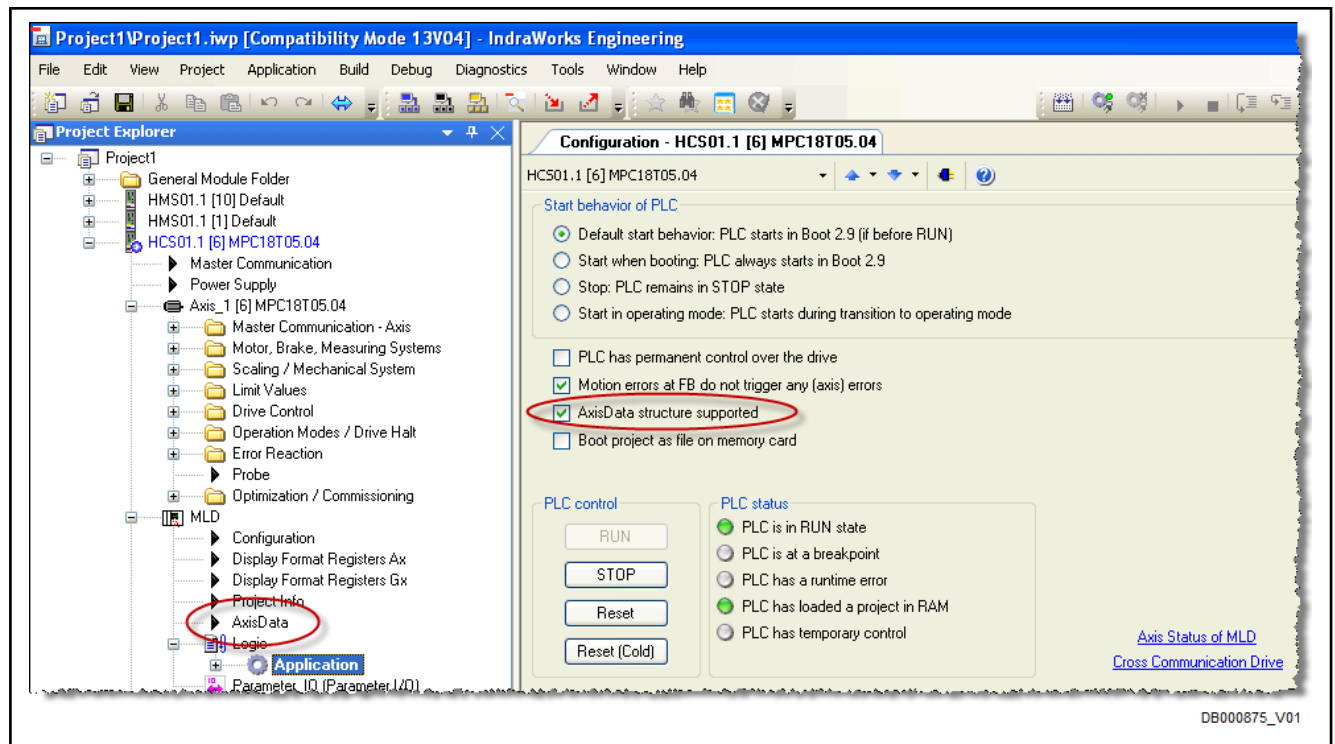

Fig. 6-13: Accessing Local and Remote Axes by Means of "AxisData" Data Structure
- The processing of the "AxisData" is optional and therefore must be activated (P-0-1367, bit 6="1"; see also fig. 6-13 "Accessing Local and Remote Axes by Means of AxisData Data Structure" on page 49).